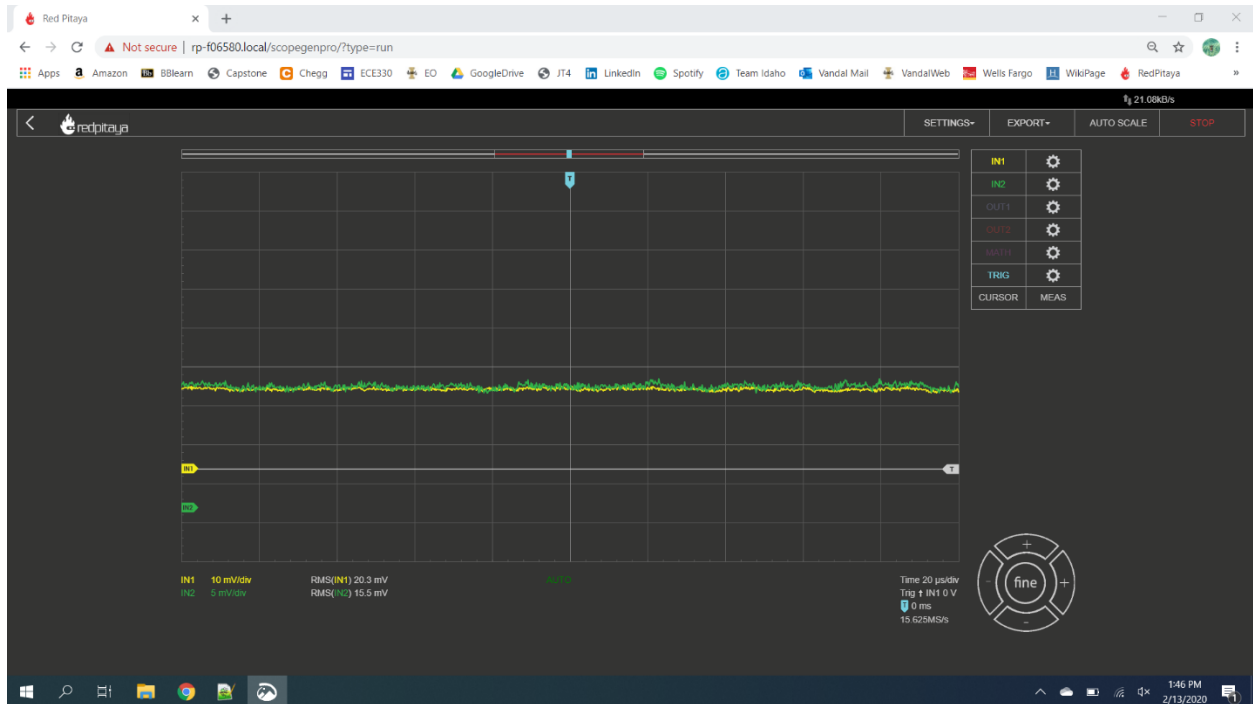

Figure 10: Photo-Detector Resting Voltages (40 dB)
1. After Step 5 of the procedure, one should see the resting output voltages of the Amplifiers at 40dB. This is shown in Figure 10 Below: